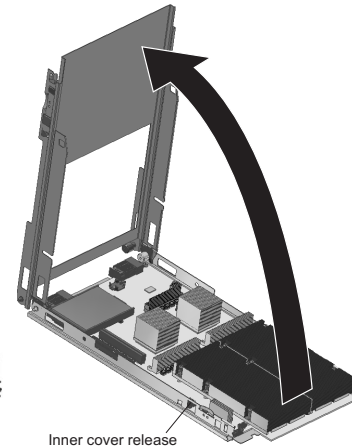
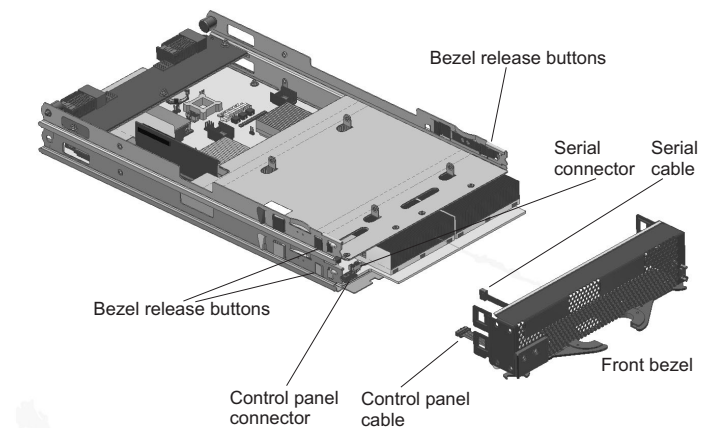

Figure 9. Opening the blade server cover
Figure 10. Removing the bezel assembly
3. Press the blue blade-cover release on each side of the blade server and lift the outer cover open (see Figure 9, step 1).
4. Lift the cover from the blade server and set it aside (see Figure 9, step 2).
5. Remove the second power board (see Figure 9, step 3).
7. Press the two front bezel release buttons on each side of the server and remove the front bezel assembly (see Figure 10 on page 27 and Figure 9, step 3).
8. Press the blue blade-cover release on each side of the blade server and lift the inner cover open (see Figure 9, step 4).